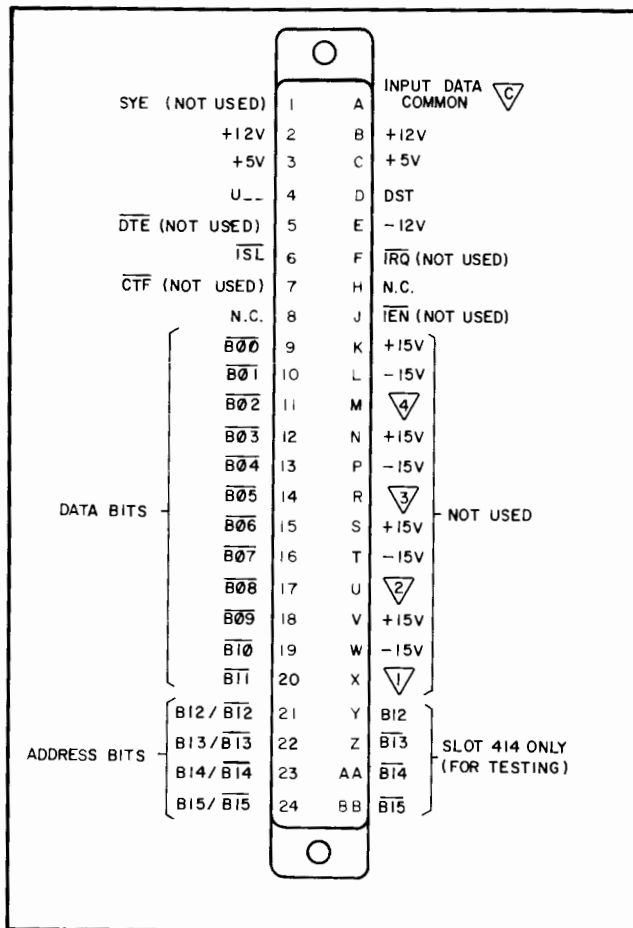

Figure 3-1. Multiprogrammer 400-Series Slot Connector
3-2 The 69435A Pulse Counter Card is controlled by the multiprogrammer in which it is installed. Any connector in slots 400 through 414 of the multiprogrammer mainframe can supply dc operating power, address and data bits, and control signals to the card. Through this interface the counter can be present to any number in its range from 0 to 4095. The contents of the counter can also be monitored through the card's interface with the multiprogrammer. Figure 3-1 illustrates the signals present on all multiprogrammer 400-series connectors.
3-31 Data Word. After a control word has put the system into the output mode and selected the multiprogrammer unit which contains the card, the card is addressed by a data word consisting of the 12 bits of data to be loaded into the counter (bits 0-11) and a 4-bit slot address (bits 12-15). Although both the true and complemented forms of the slot address bits are represented in Figure 3-1 (e. g. B12 and $\overline{B12}$), only one of the two states is present on each of the four slot address lines of a particular card slot. Each card slot in a multiprogrammer is distinctively coded by its connections to the slot address lines. For example, if the card is installed in slot 405, then bits B12 (1), $\overline{B13}$ (2), B14 (4), and $\overline{B15}$ (8) will be connected to the card's address lines, and all four lines will be HI when slot 405 is addressed. Approximately 3 μ sec after the data word containing the four slot address and 12 data bits is gated, the mainframe sends a data